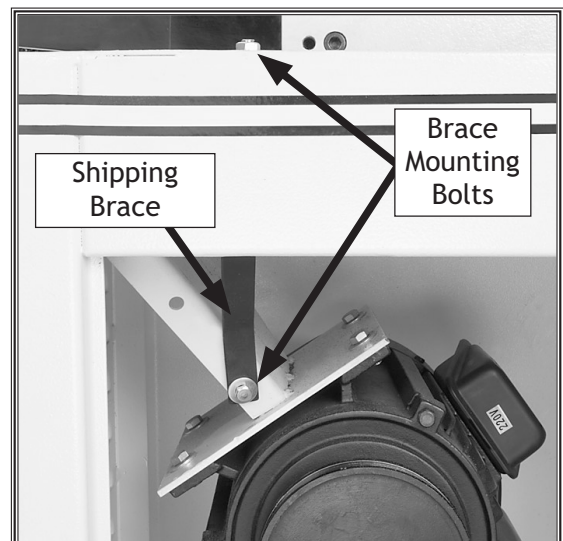

Figure 9. Shipping brace.
7. Remove the shipping brace shown in **Figure 9**.